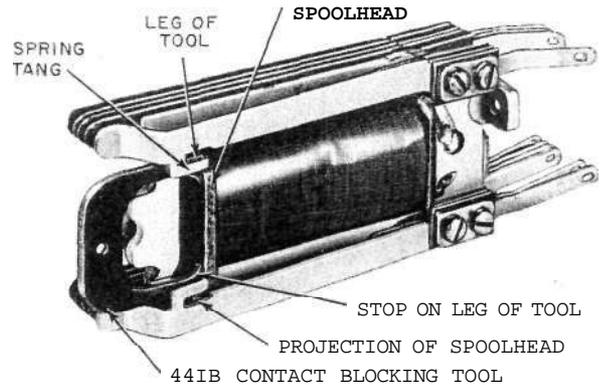

Fig. 36—Blocking EA4T Relay for Cutover Purposes
(4) **EA41 Relay:** Fig. 36—Using the 441B